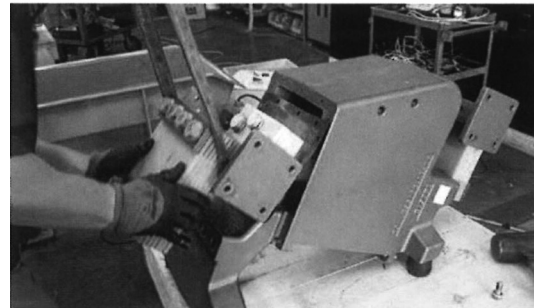

Figure 13: Armature Removal
2. First begin by removing the diaphragm damp bolts and damp shown in Figure 13.